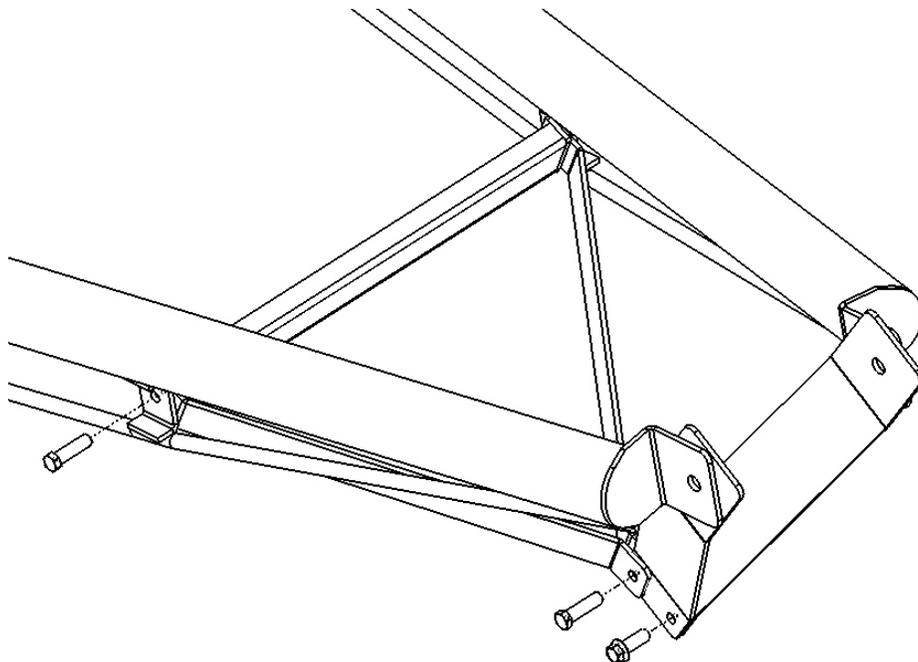

Fig. 32.1
Next, take the anti-twist brace and the 2 anti-twist stabilizer straps and attach to the brackets located about 24" from the end of the carriage arms. Secure these parts with (2) 1/2" x 2 hex bolts & top lock nuts. Next place the (2) 4" wide inner stabilizer brackets between the 2 straps and secure with a 1/2" x 2" hex bolt & top lock nuts. Secure the 2 wide inner stabilizer brackets together using a 1/2" x 1-1/2" hex flange bolt & flange nut. Align the open hole in the inner stabilizer brackets with the holes on the end of the carriage arms as shown in Fig. 32.1.